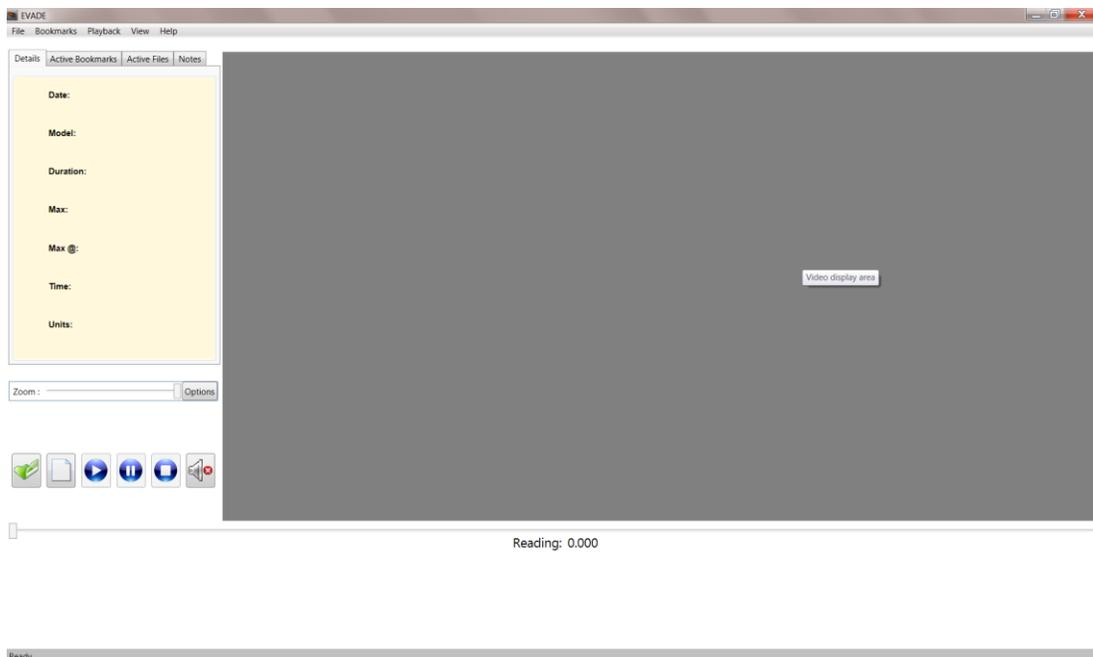

Figure 16. The main window of the EVADE program.
2. EVADE will start by displaying the main window of the program (Figure 16).